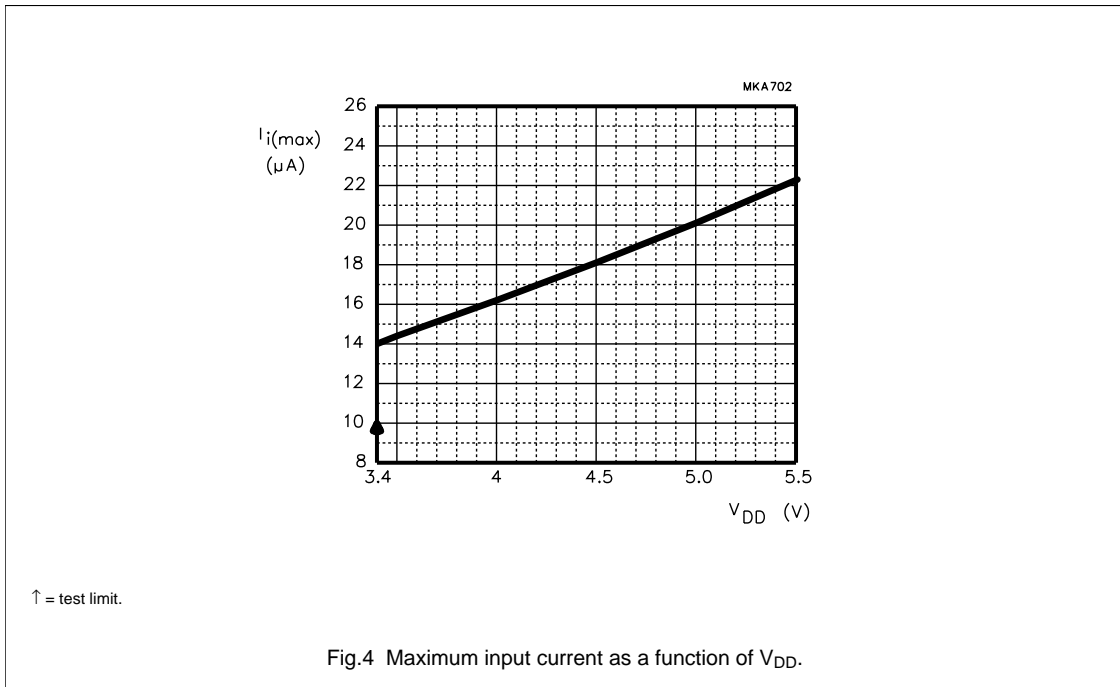

Fig.4 Maximum input current as a function of  $V_{DD}$ .
1. The maximum input current is defined as the current in which the gain reaches its minimum. Increasing the supply voltage to  $V_{DD} = 5\text{ V}$  increases the maximum input current (see also Figs 4 and 5).